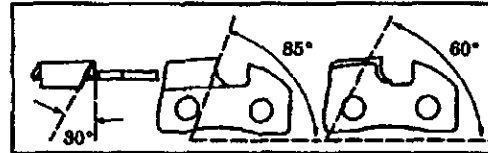

Figure 34
- f.) File chain to meet the specifications shown in Figure 34.
Maintain the proper hook angle according to the manufacturer's specification for the chain you are using. Too much hook angle will increase the chance of kickback which can result in serious injury. Figures 34 & 38.